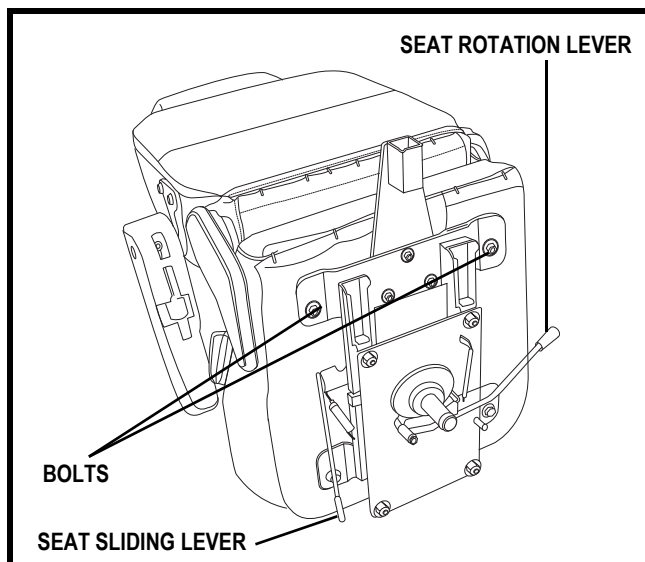

Figure 16A. Seat Adjustment Levers
1. Push forward on the seat rotation lever to disengage the seat. See **figure 16A**.
You can reposition the seat forward or backward to adjust the distance between the seat and the tiller. See **figure 16A**.
3. Remove the two bolts on the outermost part of the rear seat mounting strap. See figure 16A.